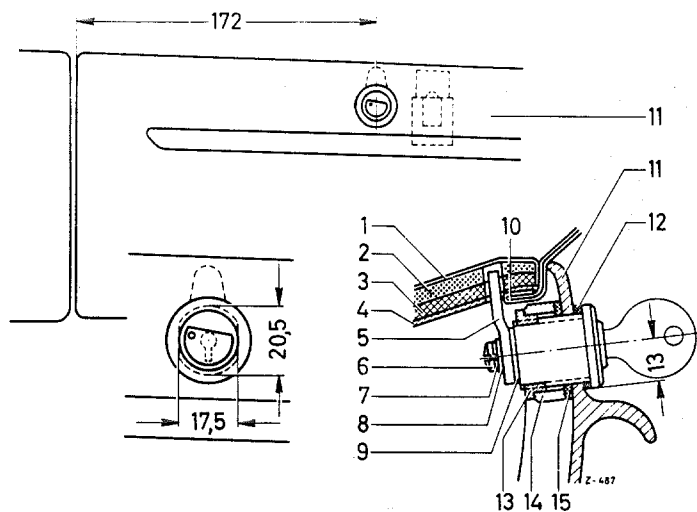

Fig. 68 — 4/2
5. Shorten the tongue (5) by 5 mm (see Fig. 68 — 4/2).
6. File the 18 mm  $\varnothing$  bore in the glove compartment lid to the specified dimensions (see Fig. 68 — 4/2) and fit the lock.